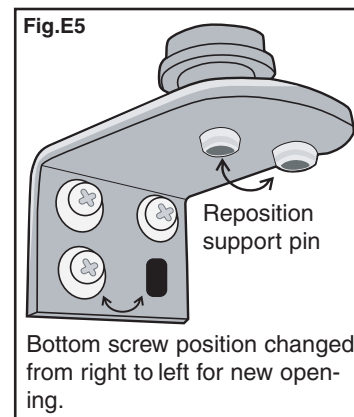

Fig. E4
6. Unscrew the upper door hinge pin (**Fig E4**) from the right side of the worktop and install it on the left side of the worktop.